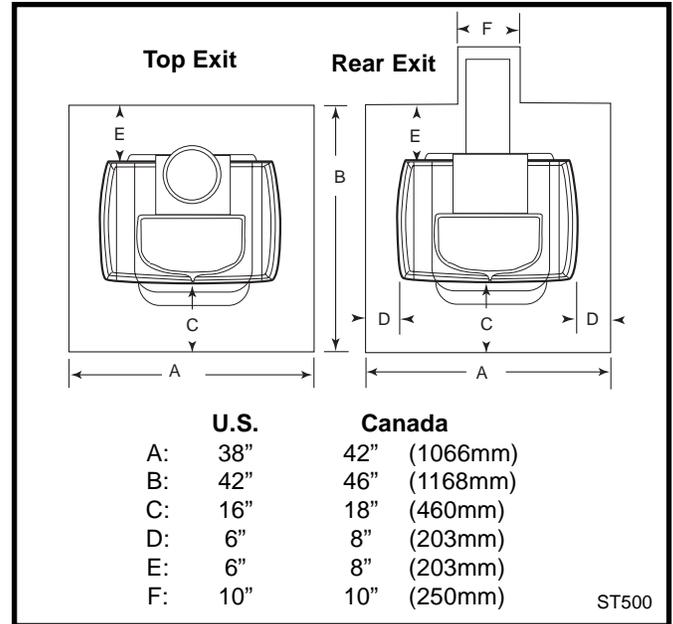

Fig. 11 Required floor protector dimensions.
**U.S. installations** the floor protector is required under the stove and must extend at least 16 inches from the front of the stove ("C", Fig. 11), and at least 6 inches from the sides and rear ("D" and "E", Fig. 11). It must also extend under the chimney connector and 2 inches to either side ("F", Fig. 11).
**In Canada**, a noncombustible floor protector is required under the heater also. The floor protector must extend 18 inches (460 mm) to the front ("C", Fig. 11), and 8 inches (200 mm) from the sides and rear ("D" and "E", Fig. 11).